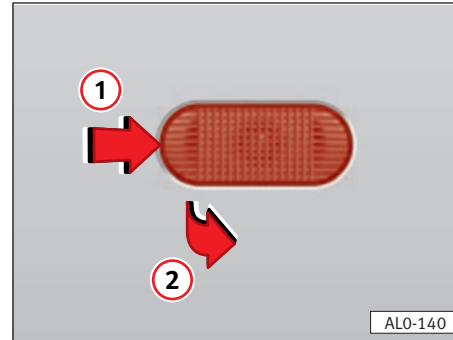
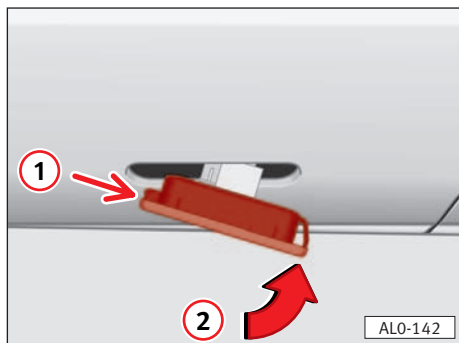

Fig. 182
Fig. 184
- Press turn signal to front ⇒ **fig. 182** arrow ① and remove ⇒ **fig. 182** arrow ②.
- First place turn signal with retaining lugs ⇒ **fig. 184** arrow ① in body opening and then engage light in direction of arrow ⇒ **fig. 182** ②. ■